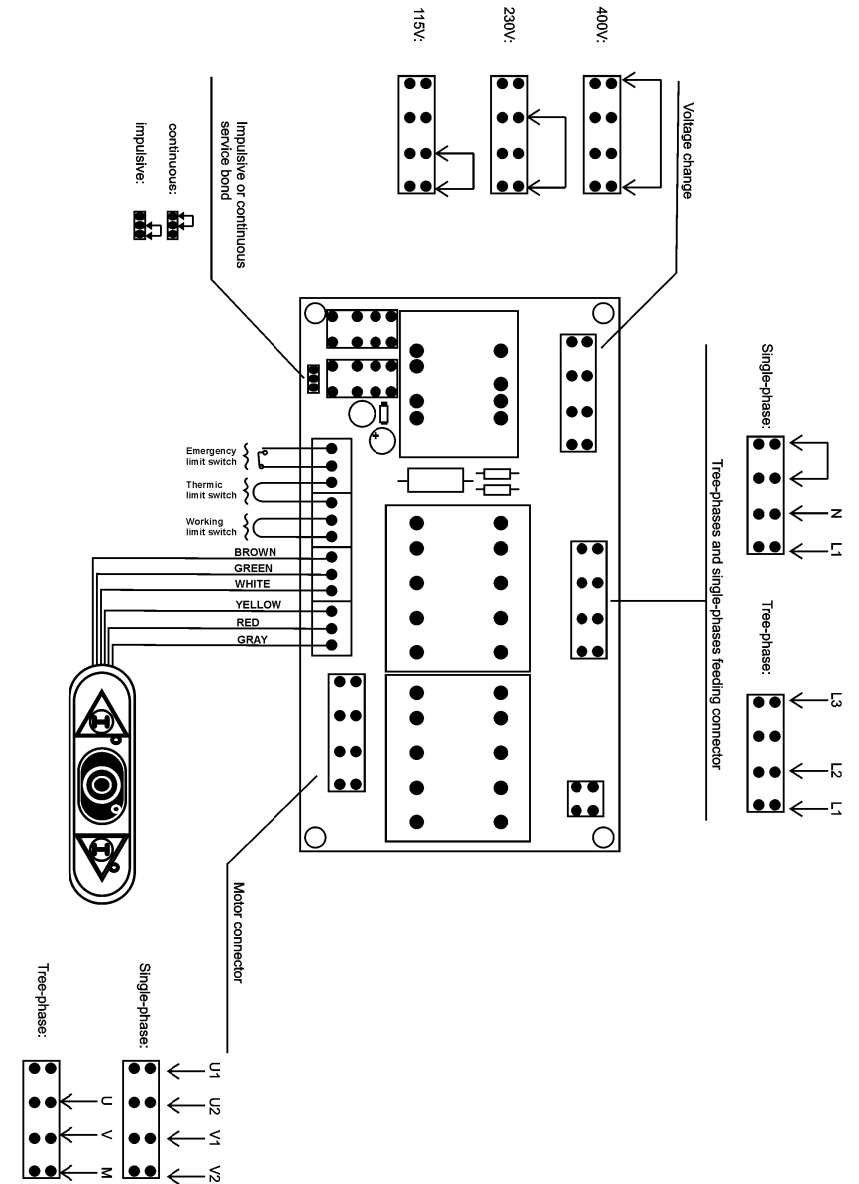

Fig. 2.4.1
2.4.1 Wiring diagram three-phase and single-phase (Fig. 2.4.1)
When installing the appliance bear in mind that amp space must be left around the appliance. Refer to the dimensions given in Fig. 2.4.1. This space allows you to work freely with the appliance and allows easy access when servicing or repairing it.